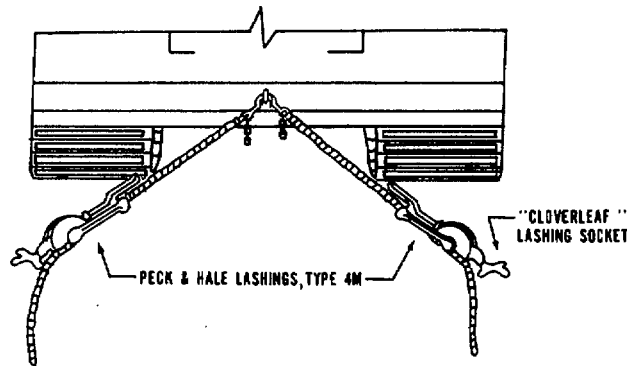

Figure 6-4. Rear view of the M973 tiedown on a RORO ship, showing typical securement with Peck and Hale lashings.
b. *Securing.* RORO and Seatrain vessels, landing ships, and attack cargo ships are equipped with patented lashing gear (equipment made by Peck and Hale is often used) and permanent fittings in the deck. Eight Peck and Hale lashings, size 4M (4,200-lb breaking strength), should be used to tie down each M973, two lashings, crossed, from the forward tiedown points and two lashings, crossed, from the aft tiedown points of each unit to the "cloverleaf" deck sockets or bulkhead fittings. Blocking and bracing is not required with adequate patented lashing gear (see fig. 6-4)